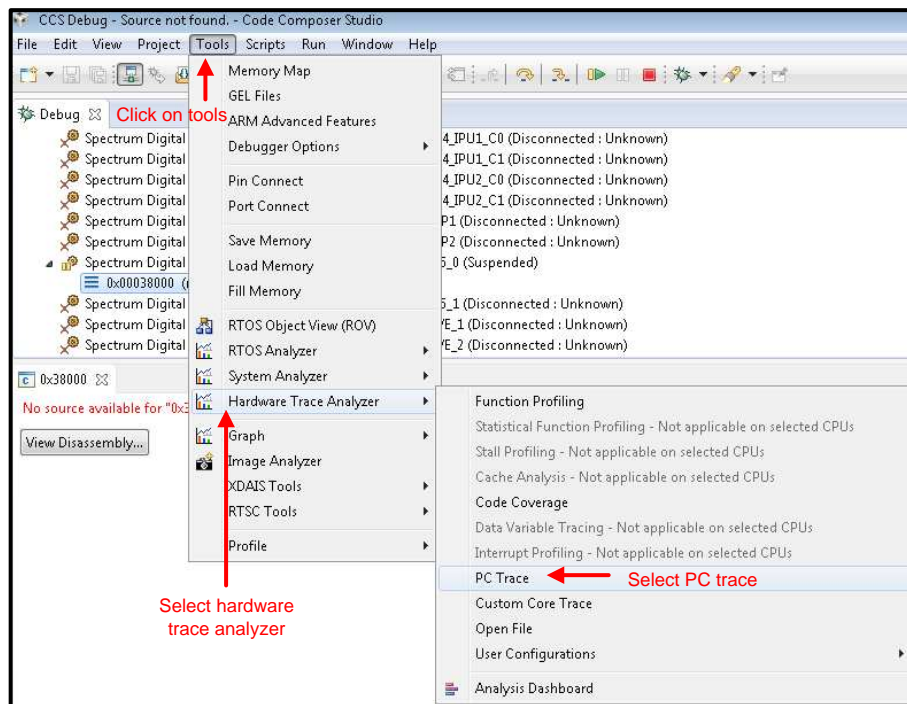

Figure 20. Steps to Start the Cortex-A15 PC Trace
2. From the Tools menu option, select Hardware Trace Analyzer → PC Trace (see Figure 20).